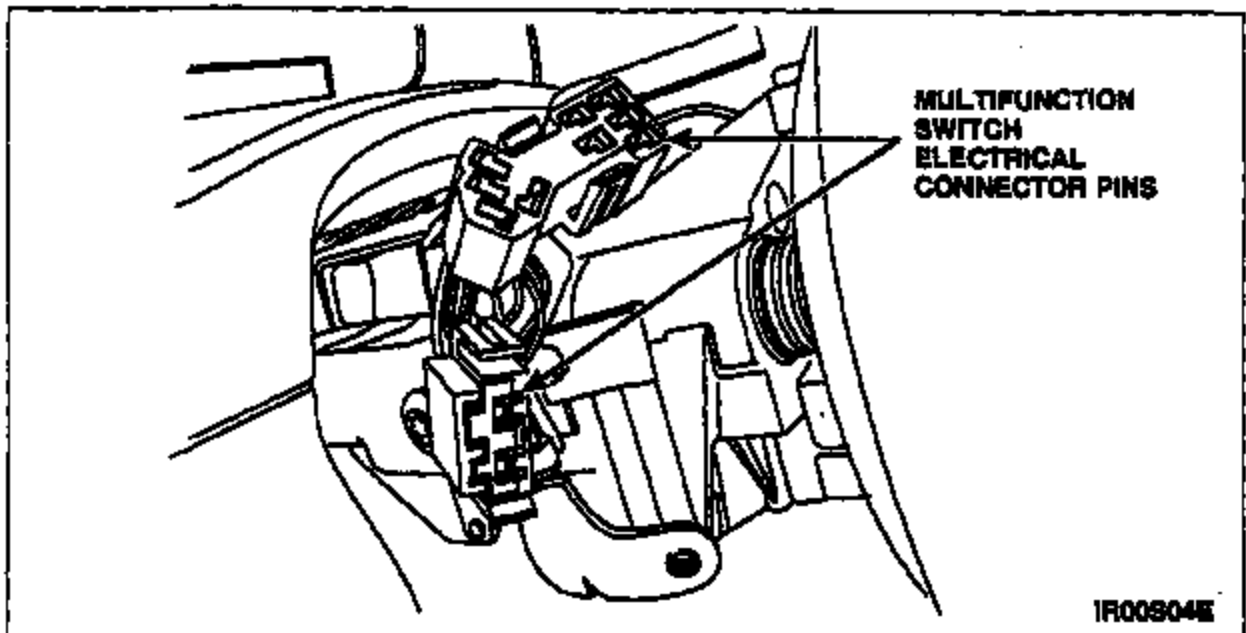

FIGURE 5
5. Inspect the multifunction switch electrical connector pins to make sure they are not loose or pushed out in the connectors. See Figure 5.